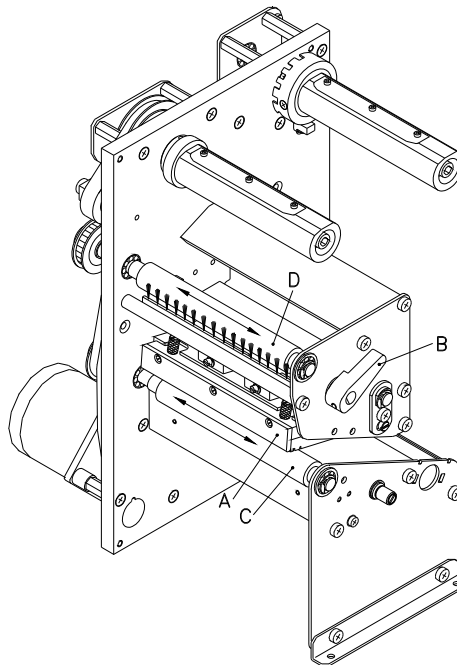

Figure 1
2. Turn red lever (B, in Figure 1) counter clockwise to lift up the printhead.
4. Blow out the photocell (A) with pressure gas spray. Observe strictly the instructions on the spray can!
5. Clean the label photocell (A) additionally with a cleaning card (B) before soaked in pure alcohol. Move the cleaning card from one side to the other (see illustration).